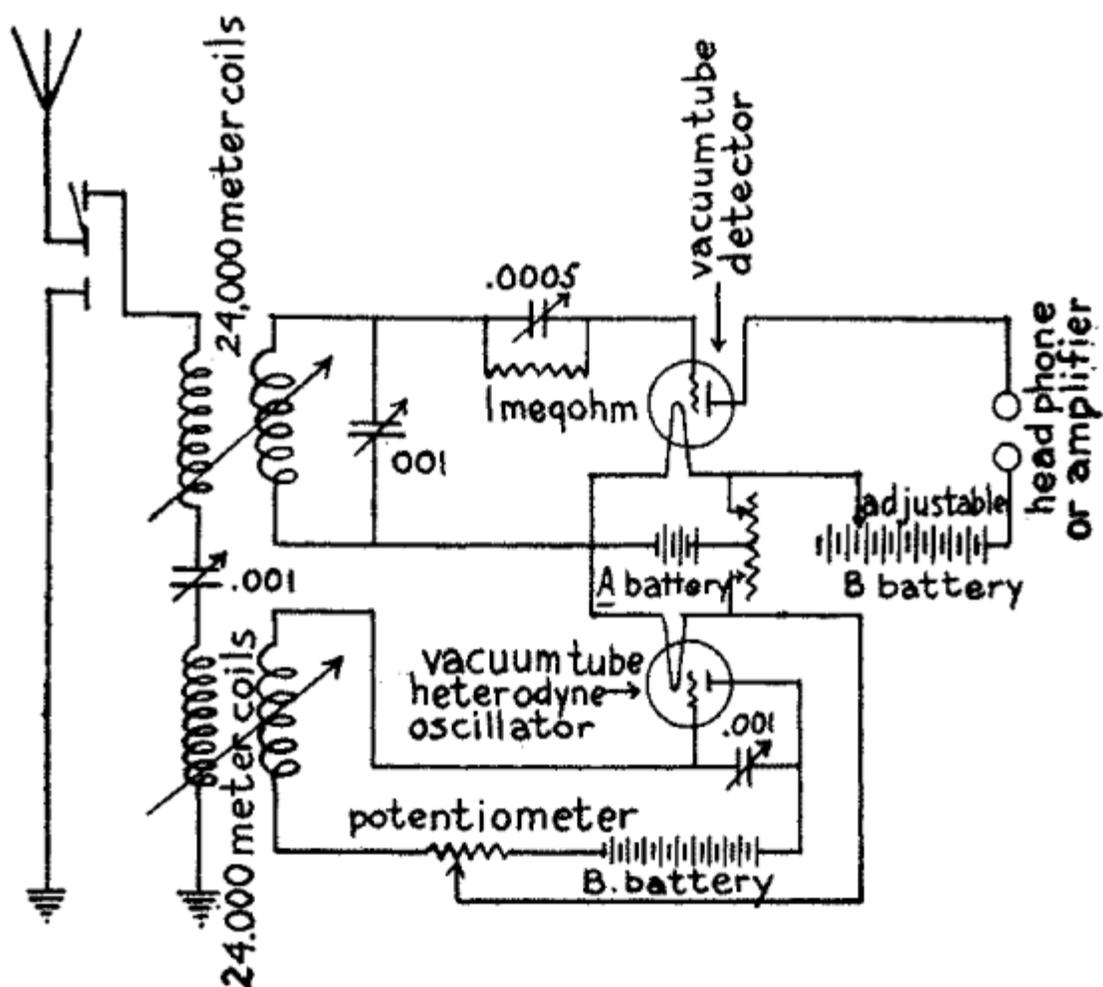

FIG. 61.—Wiring Diagram of Long Wave Separate Heterodyne Receiving Set.
The Parts and Connections of a Separate Heterodyne Long Wave Receiving Set.--The parts required for this long wave receiving set are: (1) four honeycomb or other good *compact inductance* coils of the longest wave length that you want to receive; (2) three *.001 mfd. variable condensers*; (3) one *.0005 mfd. variable condenser*; (4) one *1 megohm grid leak resistance*; (5) one *vacuum tube detector*; (6) one *A battery*; (7) two rheostats; (8) two *B batteries*, one of which is supplied with taps; (9) one *potentiometer*; (10) one *vacuum tube amplifier*, for setting up the heterodyne oscillations; (11) a pair of *headphones* and (12) all of the parts for a *two-step amplifier* as detailed in Chapter IX, that is if you are going to use amplifiers. The connections are shown in *Fig. 61*.